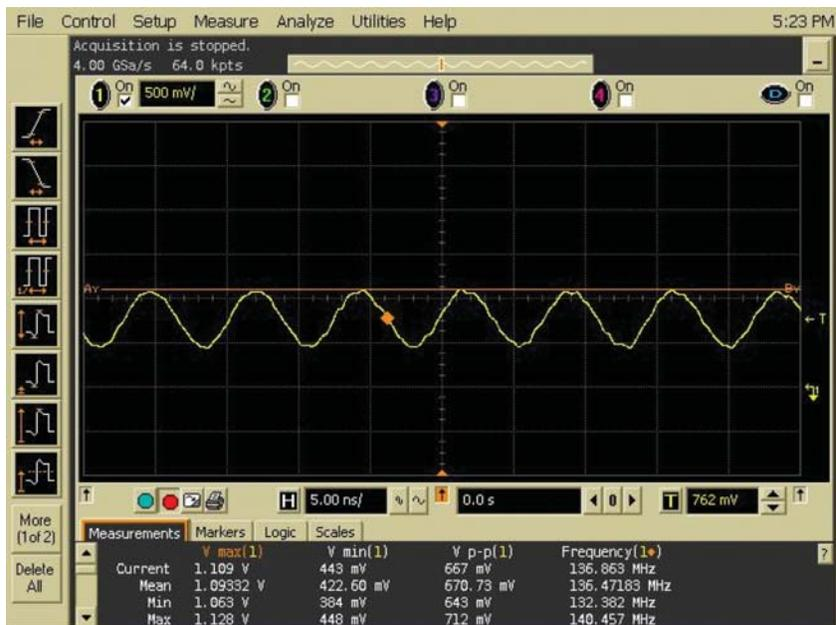

Figure 1. Waveform of a ring oscillator through the switching matrix of the Agilent 4080 test system
in Figure 1. The successful monitoring of an oscillation frequency that is close to 140 MHz is displayed.
The characteristics shown in Figure 3 (A) were measured on the same device as shown in Figure 1. The results of the frequency measurements are nearly identical.